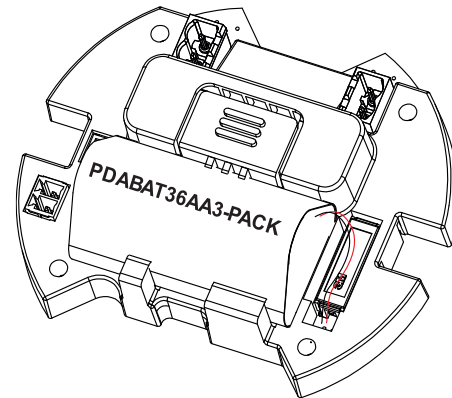

Figure 30. Battery Operation
- Install the new battery into the battery compartment and connect the battery connector plug into the socket on the option module as shown in *Figure 30*.